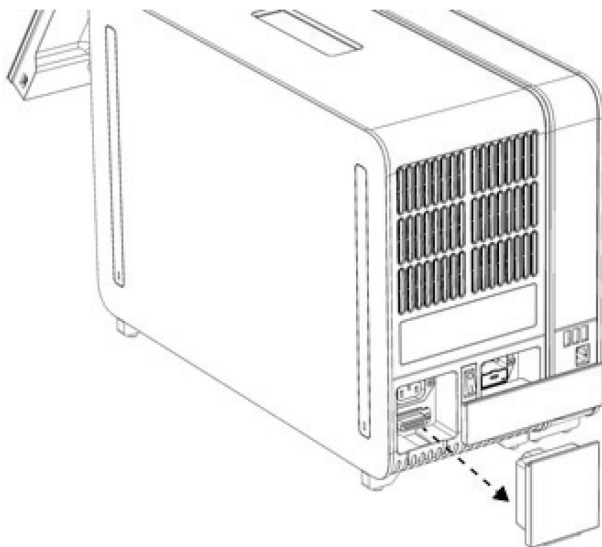

Figure 12. Removing the Termination Bridge.
- Remove the Termination Bridge from the back of the Analytical Module (Figure 12).